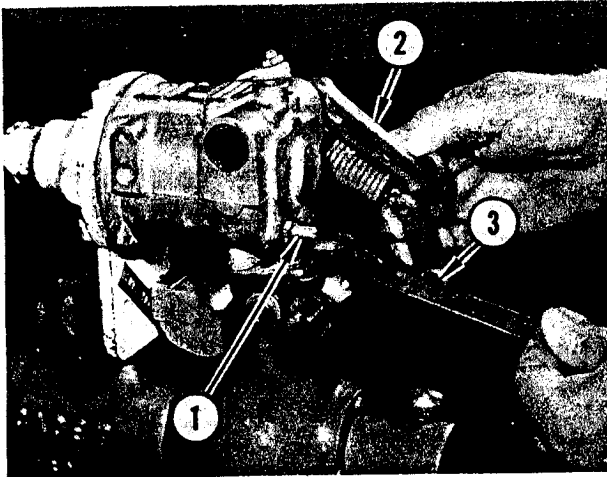

FIGURE 36. GOVERNOR ADJUSTMENT
Refer to Figure 36. Loosen locknut on adjusting screw (1). Back adjusting screw out until only 2 or 3 threads remain in housing. Pull back on governor lever (2) as far as it will go. Holding governor lever in this position, turn adjusting screw in until hole (3) in governor lever moves toward governor $1/16$ ". Tighten adjusting screw locknut. If this adjustment is not properly made, the